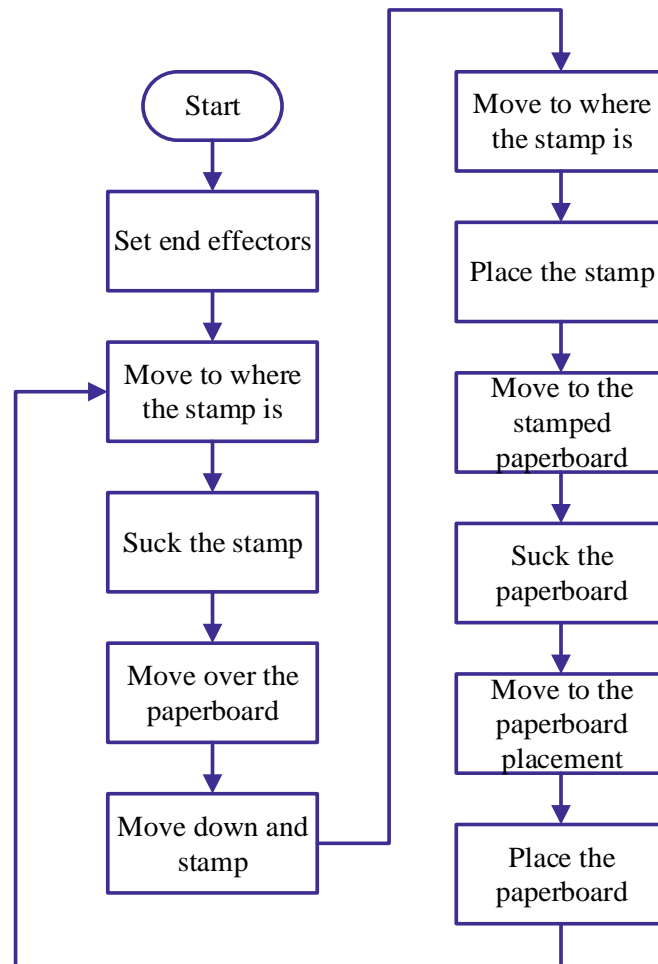

Figure 1.21 Infinite-stamping flowchart
(2) Design Program
Step 1: Unlike the multi-stamping flow by the robotic arm, the infinite-stamping flow also needs to solve the problem of replacing the stamped certificate. According to your observation, read the flowchart of completing stamping for infinite times, as shown in the Figure 1.21.